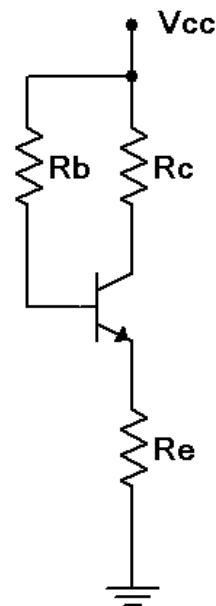

Figure 2
8. Consider the circuit of Figure 2 using $V_{cc} = 12$ volts, $R_b = 220 \text{ k}\Omega$, $R_e = 470 \Omega$ and $R_c = 330 \Omega$. Determine the ideal end points of the DC load line and the Q point, and record these in Table 5.
10. Build the circuit of Figure 2 using $V_{cc} = 12$ volts, $R_b = 220 \text{ k}\Omega$, $R_e = 470 \Omega$ and $R_c = 330 \Omega$. Measure the base, emitter and collector voltages and record them in the first row of Table 6 (Experimental).